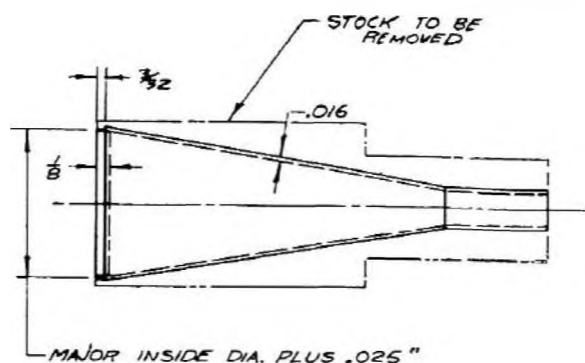

Figure 5.
4. Make rear cone using the same procedure as the front cone except as shown in Fig. 5.